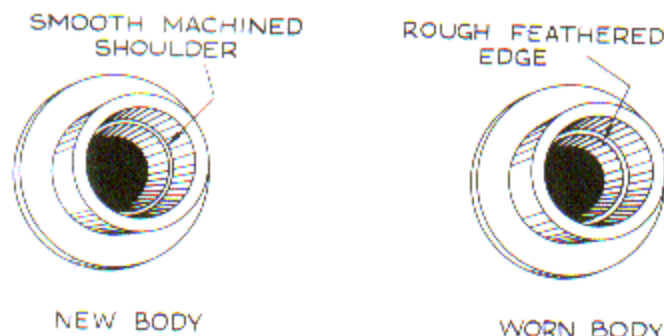

Figure 6-8. Appearance of Interior Shoulder in New and Worn Tappet Bodies
a. Examine the interior of the bore in the tappet body, using a small flashlight or other suitable means to illuminate the interior surfaces. If any appreciable amount of wear has occurred at the interior shoulder (which serves as a seat for the cylinder and plunger assembly), a feathered edge of worked metal will be visible around the shoulder as shown in figure 6-8. The existence of this feathered edge is sufficient cause for rejection of the entire tappet assembly.